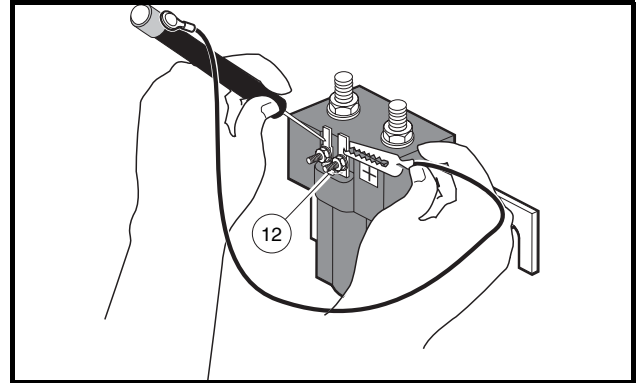

Figure 11-9 Diode Test – Probe Position Two
- 3.2. Reverse the positions of the probe and the alligator clip (**Figure 11-9, Page 11-20**). The tester should not illuminate. If any other reading is obtained, the diode must be replaced. If the diode is functioning correctly, proceed to step 5.